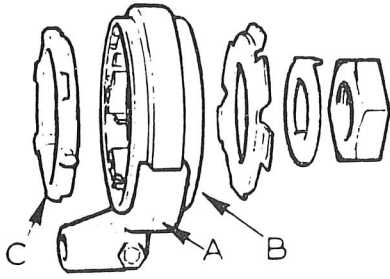

Fig.42. 5th. GEAR SYNCHRONISER
22. Place selector fork (A, Fig.42) on the 5th. synchroniser assembly (B, Fig.42), noting that the 'flat' (without grooves) face of the synchroniser is towards rear of layshaft. Slide assembly on to the layshaft together with its baulk ring (C, Fig.42), ensuring that